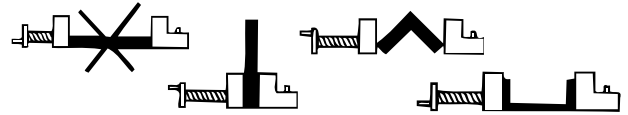

Figure 9
- Clamp the material correctly and ensure that it is centered relative to the blade. (Figure 9)